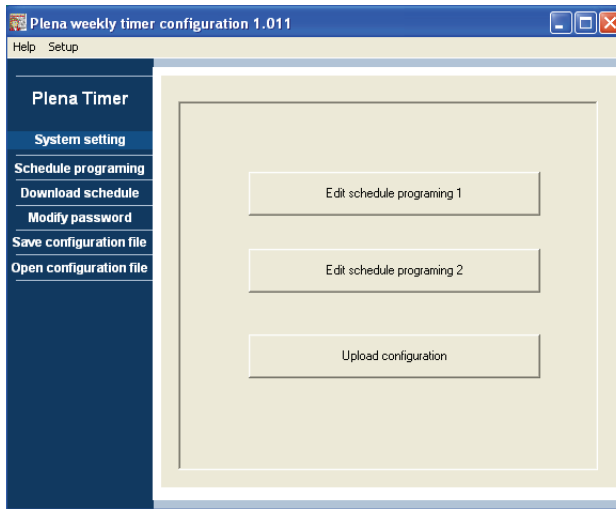

figure 8.16: Programming and upload buttons
- 1 From the main menu, click the Schedule programming button. The following window will appear (see figure 8.16).